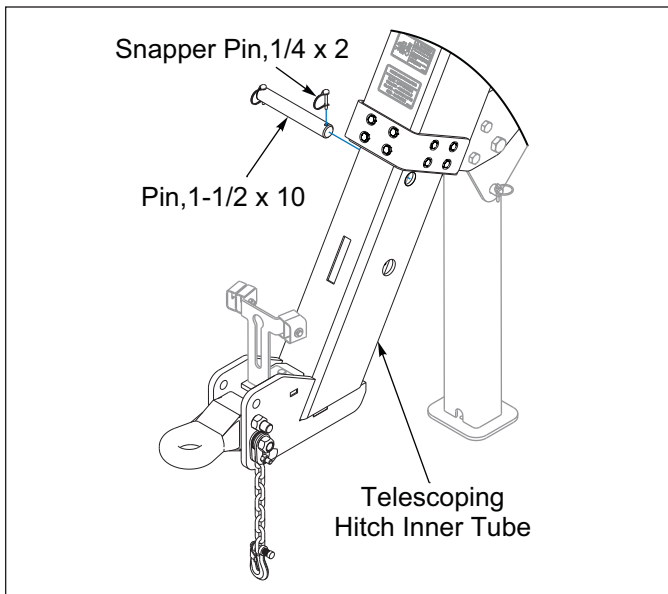

Figure 3-3: Telescoping Hitch Transport Lock Engaged
8. Fully extend the Telescoping Hitch and install the Transport Lock Pin in the Telescoping Hitch Inner Tube. **See Figure 3-3.**